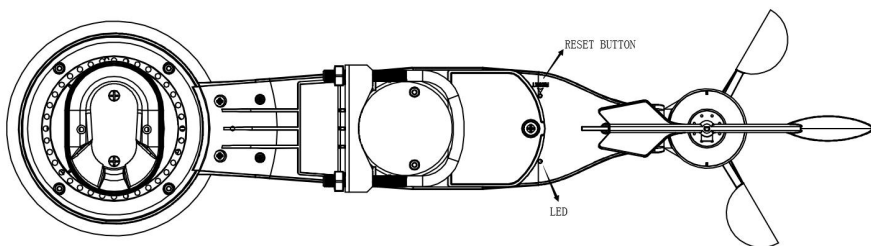

Figure 19: Reset button and Transmitter LED location
- Using a bent-open paperclip, press and hold the RESET BUTTON (see Figure 19) to perform a reset: the LED will turn on while the RESET button is pressed, then you can release it. The LED should then return to normal, flashing approximately once every 16 seconds.